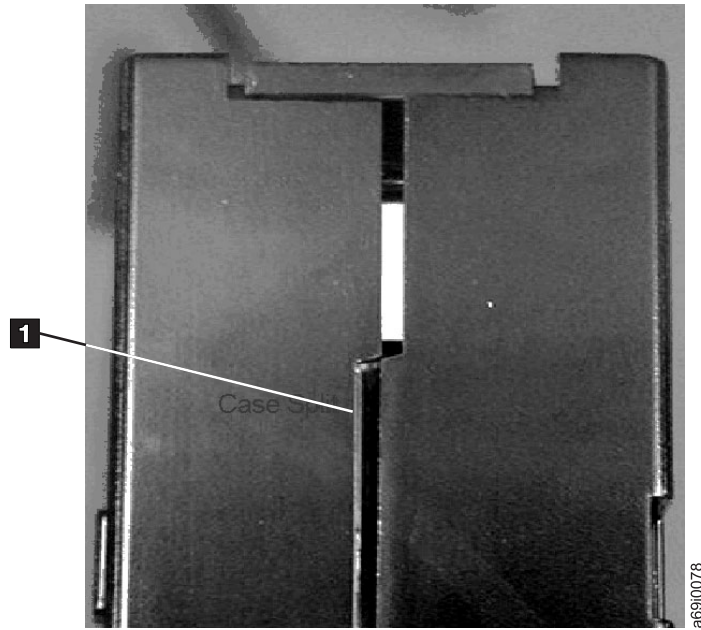

Figure 50. Gap in cartridge seam
3. Inspect the rear of the cartridge (the part that you load first into the tape load compartment) and ensure that there are no gaps in the seam of the cartridge case. (Refer to **1** in Figure 50 on page 233. If there are gaps in the seam, the leader pin may be dislodged and may need to be repositioned.)